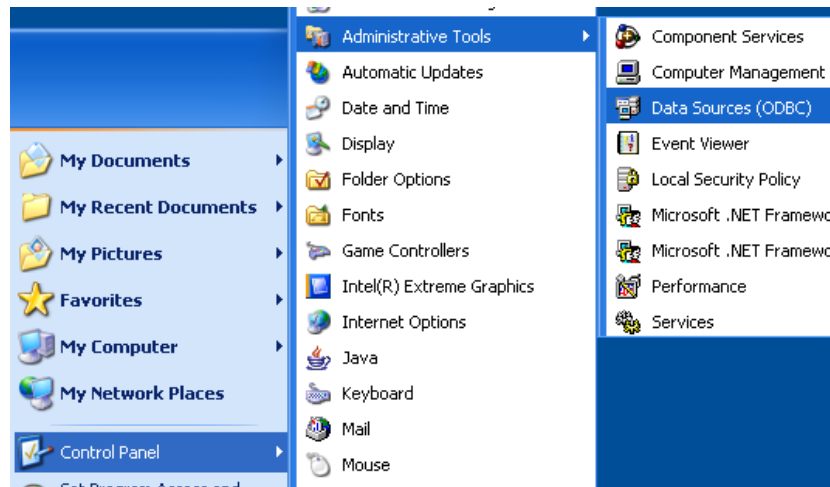

Figure 2-10
2.5.1. Click *Start > Control Panel > Administrative Tools > Data Sources (ODBC)*. (Figure 2-10)